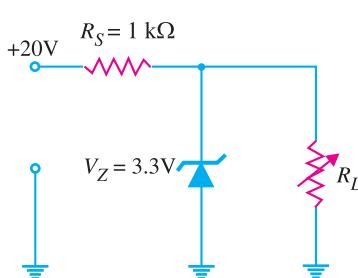

Fig. 17.32
2. The zener diode in Fig. 17.32 has values of $I_{Z(min)} = 3$ mA and $I_{Z(max)} = 100$ mA. What is the minimum allowable value of R_L ? [241 Ω]